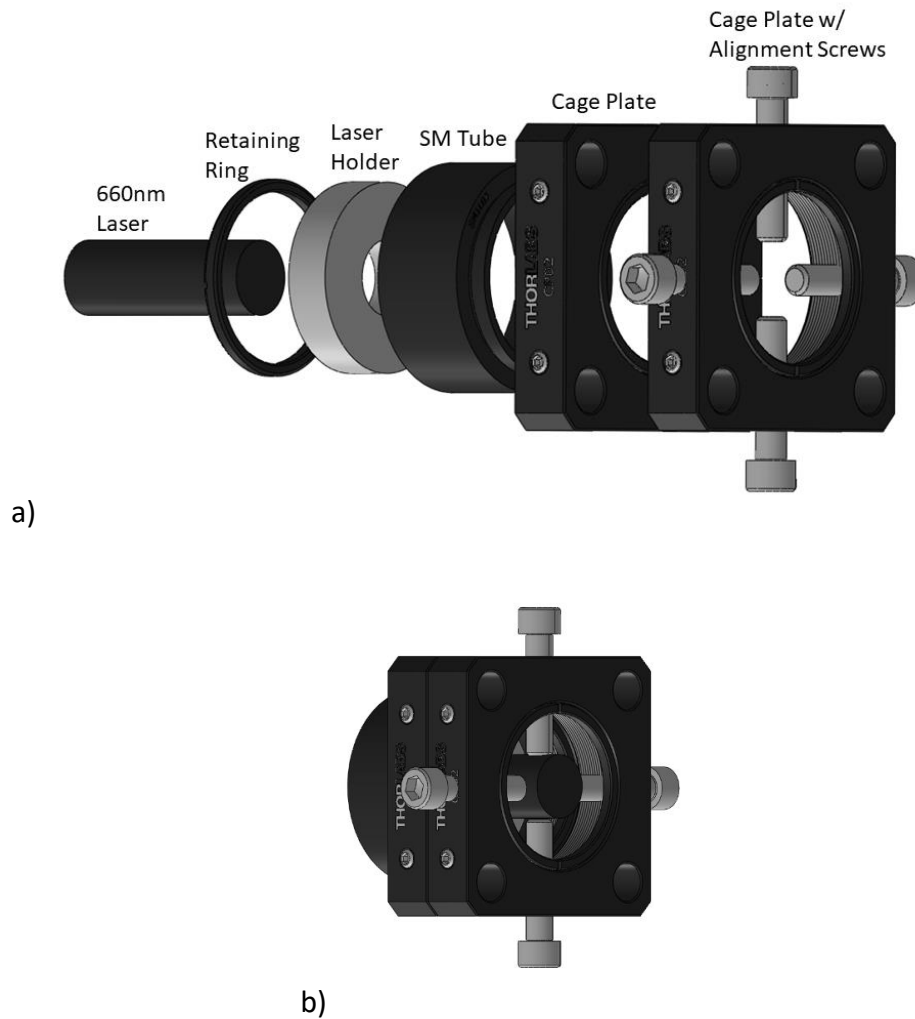

Figure 6. Laser setup with laser holder, SM tube, cage plates and alignment screws a) deconstructed for clarity and b) fully assembled.
2. Place the laser inside the SM tube containing the laser holder and inside a cage plate containing alignment screws as shown in Figure 6. The laser holder should position the laser centered about the aperture and power meter photodiode, although there is still room for small adjustments with the alignment screws.